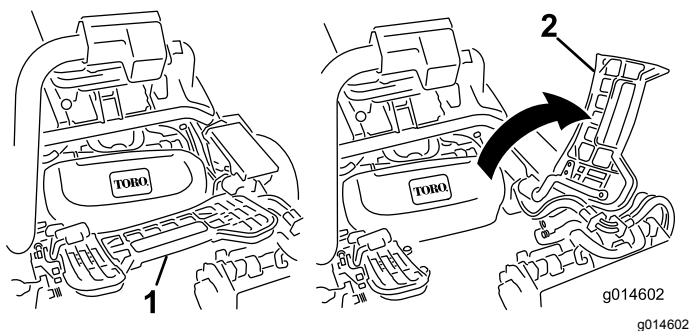

Figure 31
1. Lift up on the foot rest and swing it open, allowing access to the center cutting unit position (Figure 31).